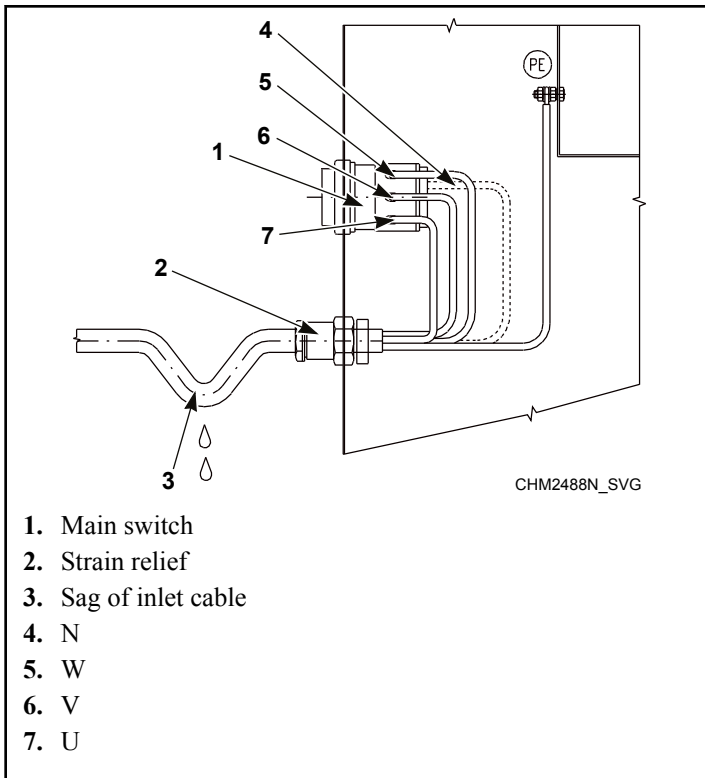

Figure 25
5. Connect the supply cable conductors to the incoming terminals (main switch [1]), marked with L1/U, (L2/V), (L3/W), (N) and the terminal marked with PE. Refer to *Figure 25*.
6. Provide a sag in the cable, in front of the strain relief. This will prevent condensed water from dripping into the machine. Refer to *Figure 25*.